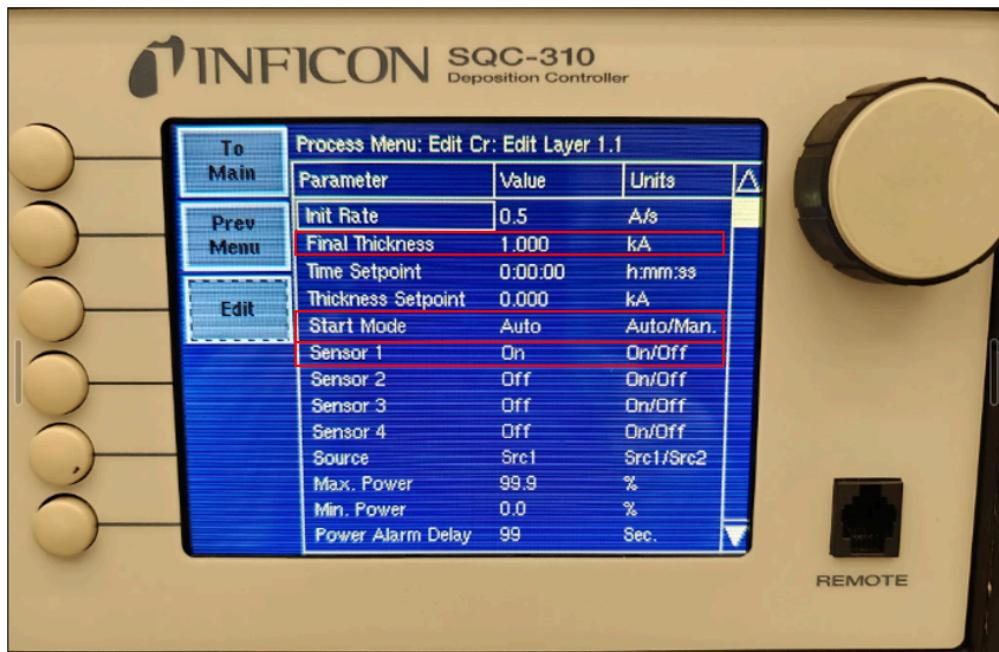

Figure 7
- d. See figure 7 in appendix for reference